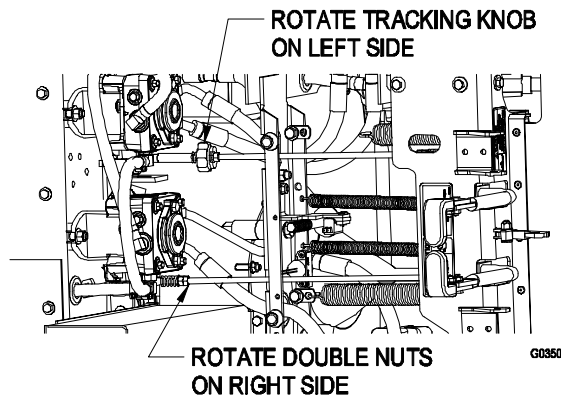

FIGURE 16
- Adjust the right pump linkage by using a wrench to turn the double nuts on the assembly. See Figure 16.